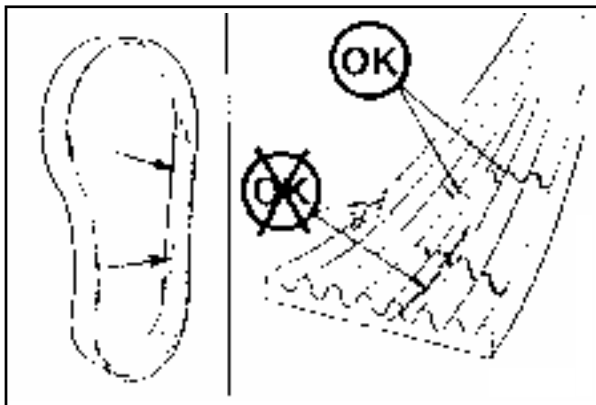

FIG 8.46
**INSPECTION** - Visually inspect the belt daily. Check the belt for intersecting cracks (fig. 8.46). Transverse (across the belt width) cracks are acceptable. Longitudinal (direction of belt length) cracks that intersect with transverse cracks are not acceptable. Replace the belt if it is frayed or has pieces of material missing.